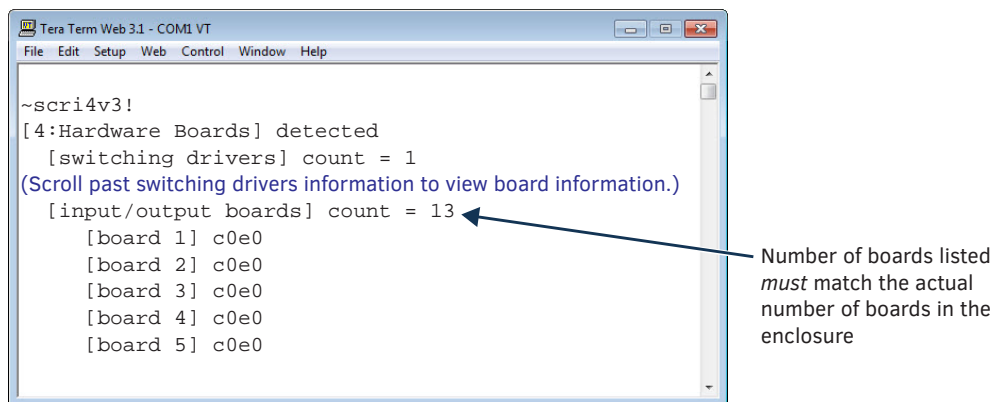

FIG. 35 Splash screen showing boards in the system (Epica DGX 288 example with 8 input boards)
- f. Check to be sure the new board is included in the input or output boards list (FIG. 35). If not, re-seat the board and enter the command again. (*Do not disconnect the terminal program until after Step 9 is successful.*)